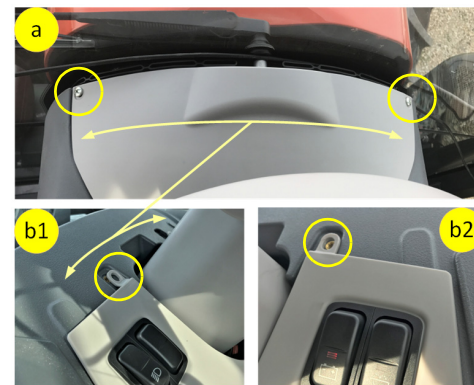

Figure 2a: Steering console cover's top screws/screw locations
- a. Remove the screws from the top panel/cover of the steering console (Figure 2a - a). Remove the two now-exposed top screws of the console's front cover (Figure 2a - b1 and b2, screws removed).